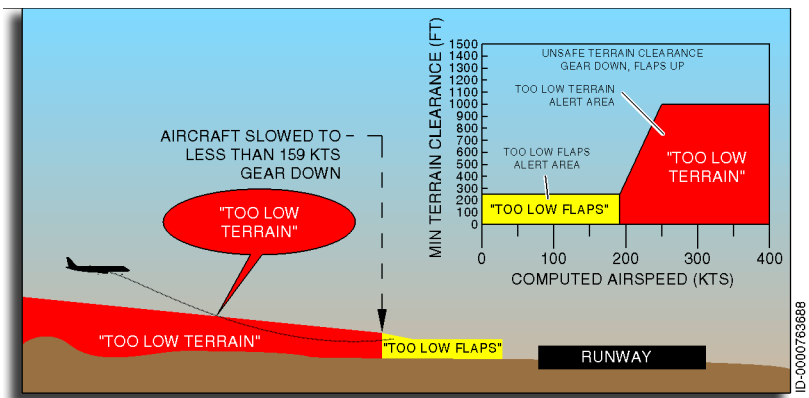

Figure 20-9
- Mode 4B, shown in Figure 20-9, is also active in cruise and approach, but with gear in landing configuration
When the landing gear is lowered, the upper boundary decreases to 245 feet. This is reduced to 150 feet on those aircraft types that routinely delay full flap deployment until the airfield is within approximately 1 NM. Penetration below 159 knots results in the **"TOO LOW GEAR"** message with gear up or the **"TOO LOW FLAPS"** message with gear down and flaps not in landing configuration, while above 159 knots, the message is **"TOO LOW TERRAIN,"** as shown in Figure 20-9.